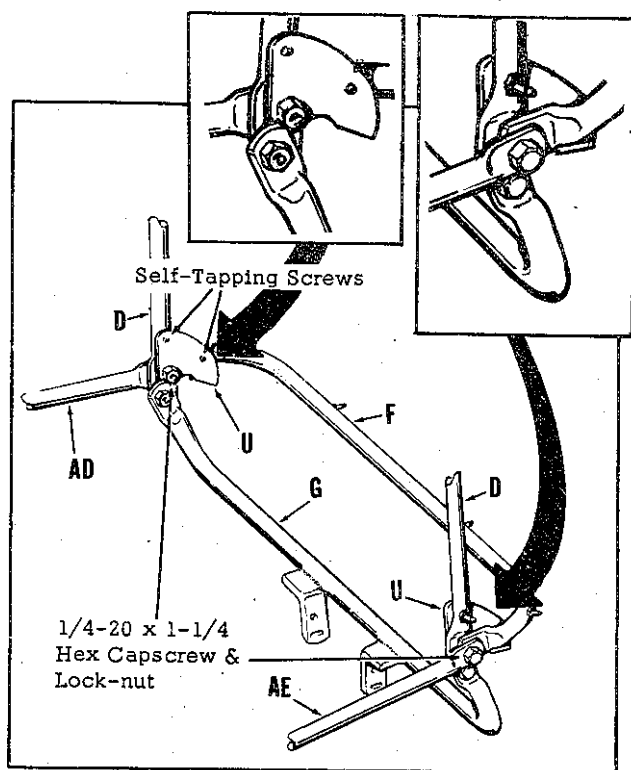

Figure 4
7. Assemble the Right Hand Bottom Brace (AD), the Lower Rear Frame (F), and the Lower Gusset (U) to the lower end of Vertical Frame (D) using a 1/4-20 x 1-1/4 hex capscrew and nut. Repeat this procedure for the opposite side. Two self-tapping screws fasten the lower gusset to the vertical frame (D) and lower rear frame (F). Refer to Figure 4.
9. Attach the Rear Pivot Tube (G) to the lower holes in the Vertical Frame (D) using 5/16-18 x 1-1/4 hex capscrew, spacer, flat washer, lockwasher, and nut. Refer to exploded-view of Summer Cab and to Figure 4.